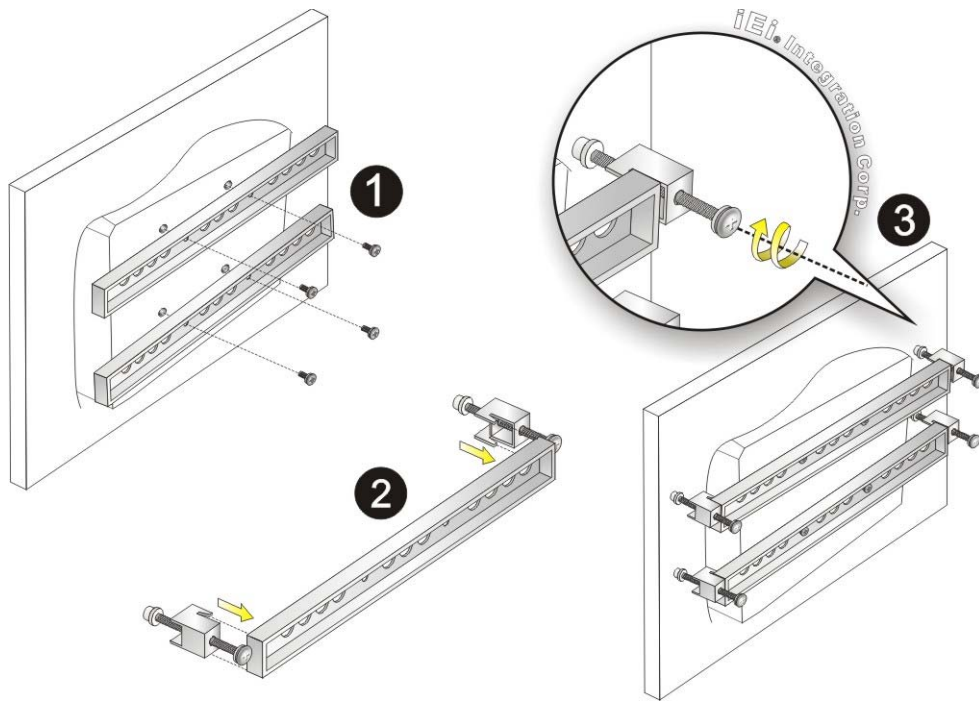

Figure 3-13: Panel Mounting Kit Installation
- Step 5:** Secure the two panel mounting brackets to the rear of the panel PC by inserting the four retention screws into the VESA mounting holes (**Figure 3-13 ①**).
- Step 6:** Insert the panel mounting clamps into the pre-formed holes along the two edges of the panel mounting brackets (**Figure 3-13 ②**). There are a total of 4 panel mounting clamps for AFL3-W07A-BT-N1.
- Step 7:** Tighten the screws that pass through the panel mounting clamps until the plastic caps at the front of all the screws are firmly secured to the panel (**Figure 3-13 ③**).